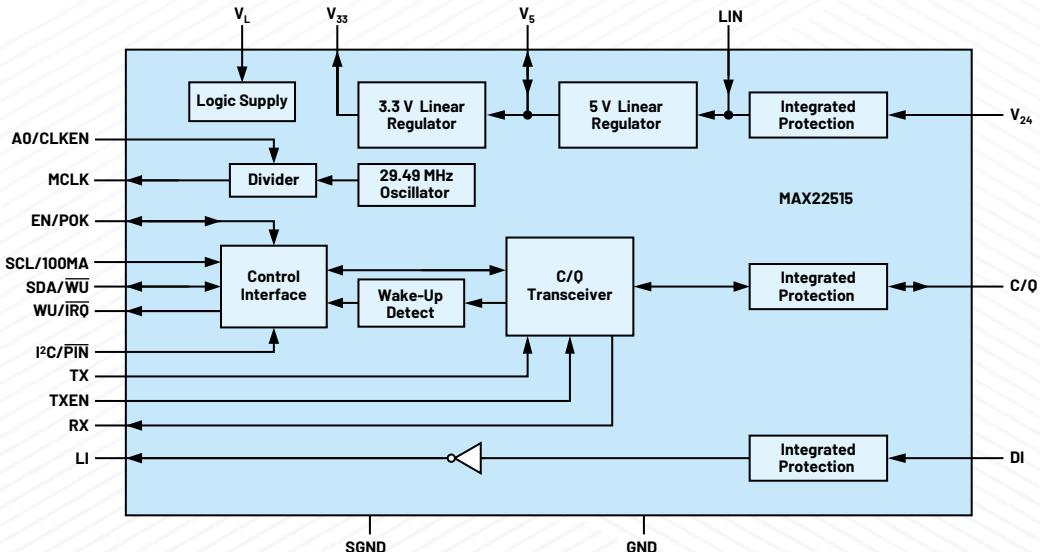

Figure 55. A MAX22515 block diagram.
The MAX22515 low power industrial transceiver (Figure 55) operates as either an IO-Link device or a non-IO-Link sensor transceiver in industrial applications. The MAX22515 features a selectable control interface (pin-mode or I2C), two integrated linear regulators, and integrated surge protection for robust communication. The transceiver includes one C/Q input-output channel and one digital input (DI) channel.